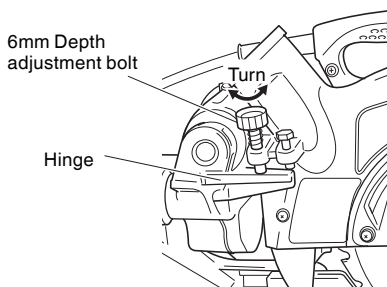

Fig. 12
To adjust the lower limit position of the saw blade, follow the procedure (1) shown in Fig. 12.
- (1) Lower the motor head, and turn the 6 mm depth adjustment bolt and make adjustments so that there can be a clearance of  $5/64"$  to  $1/8"$  (2 mm to 3 mm) between the lower limit position of the motor head and the top of the workpiece at the saw blade's lower limit position where the head of the 6 mm depth adjustment bolt contacts the hinge.